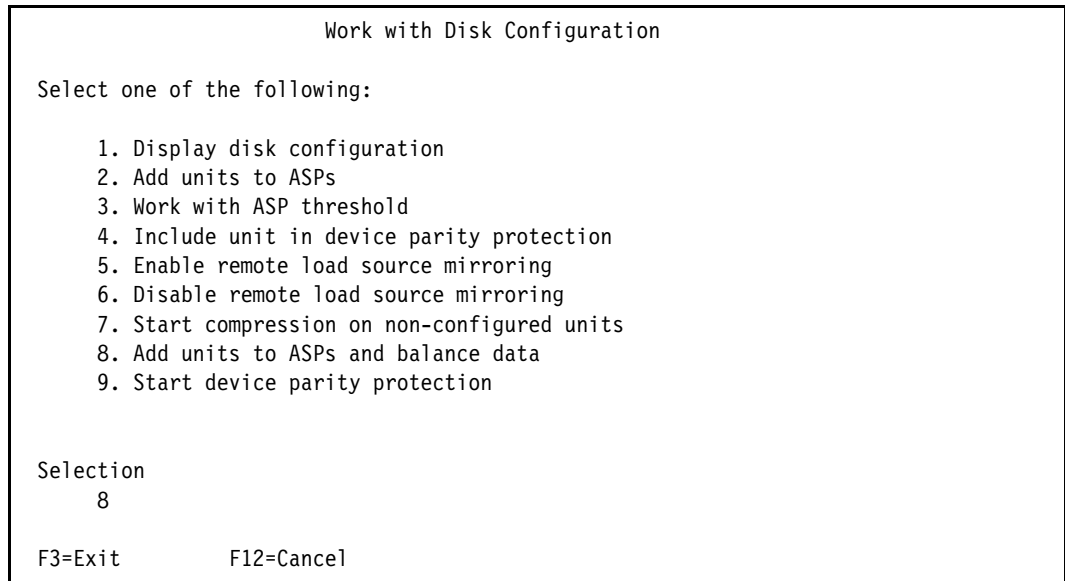

Figure 18-3 Work with Disk Configuration menu
4. When adding disk units to a configuration, you can add them as empty units by selecting Option **2** or you can choose to allow OS/400 to balance the data across all the disk units. Normally, we recommend balancing the data. Select Option **8**, Add units to ASPs and balance data as shown in Figure 18-3.